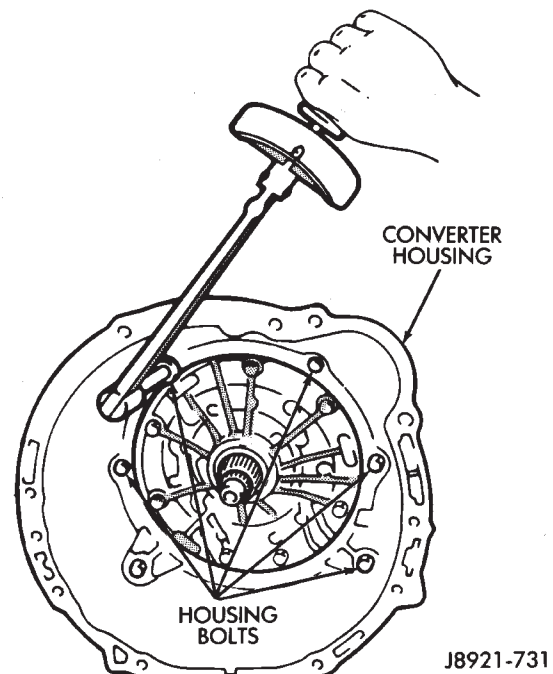

Fig. 67 Installing Converter Housing
(91) Install converter housing (Fig. 67). Tighten 12 mm diameter housing bolts to 57 N·m (42 ft. lbs.) torque. Tighten 10 mm diameter housing bolts to 34 N·m (25 ft. lbs.) torque.